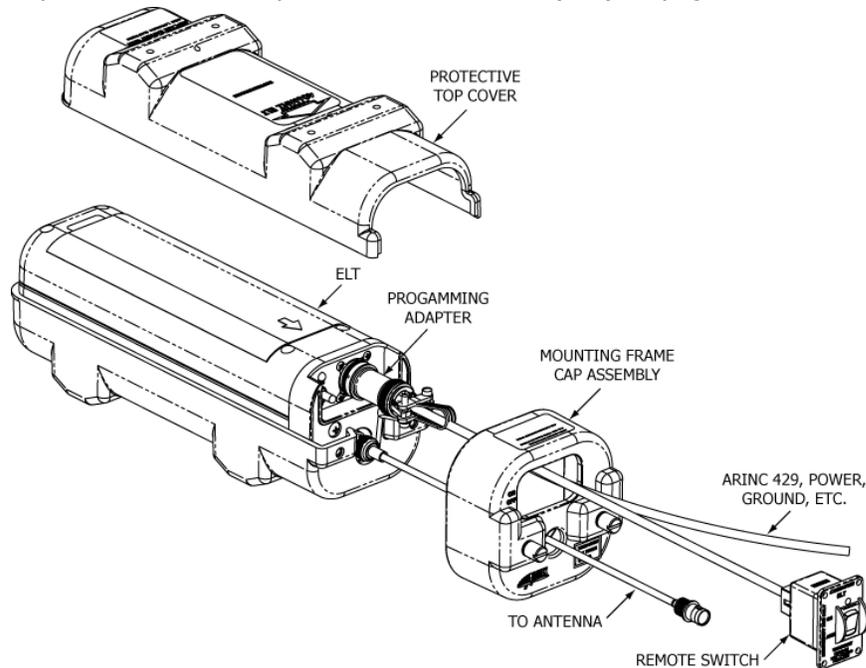

Figure 31 Programming Adapter Installation
- 1) See Figure 31 Programming Adapter Installation.